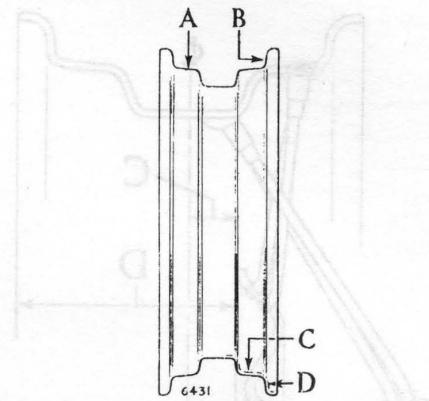

Fig. 2. Rim lift and wobble. "A" and "B" indicate the check points to be used on the rim but points "C" and "D" can be used when the tyre is mounted.
- (g) Wheel lift and wobble. On a truly mounted and revolving wheel the difference between the high and low points measured at any location on either tyre seat (Fig. 2 at "A") should not exceed .050 in. (1.0 mm.). The lateral variation measured on the vertical inside face of the flange (Fig. 2 at "B") should not exceed .050 in. (1.0 mm.). The positions "C" and "D" may be used when the tyre is mounted on the rim.
PRESSED STEEL DISC WHEELS**Wheel lift and wobble (Fig. 2)**
Wheel lift and wobble (Fig 2)